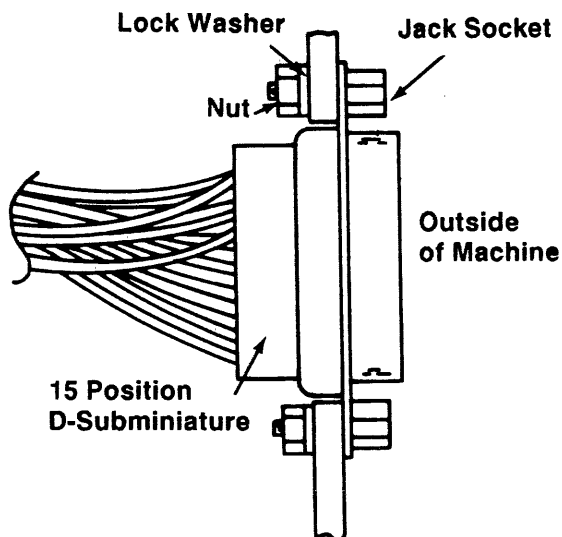

Figure 2-3.3B
- Install four PC Board Supports (Figure 2-3.3B).
- Install the Isolation Board (Figure 2-3.3B).
- Mate J102 to the connector on the left side of the board (Figure 2-3.3B).
- Mate J103 and J104 to the connectors on the right side of the board. (Figure 2-3.3B)
1. Remove the Lower Left Cover if necessary, remove J100 and J101 and replace the M3 x 6 Taptite Screws with the 4-40 Jacksocket Assemblies (Item 16). See Figure 2-3.3B You may want to retap the hole before installing the Jacksockets.